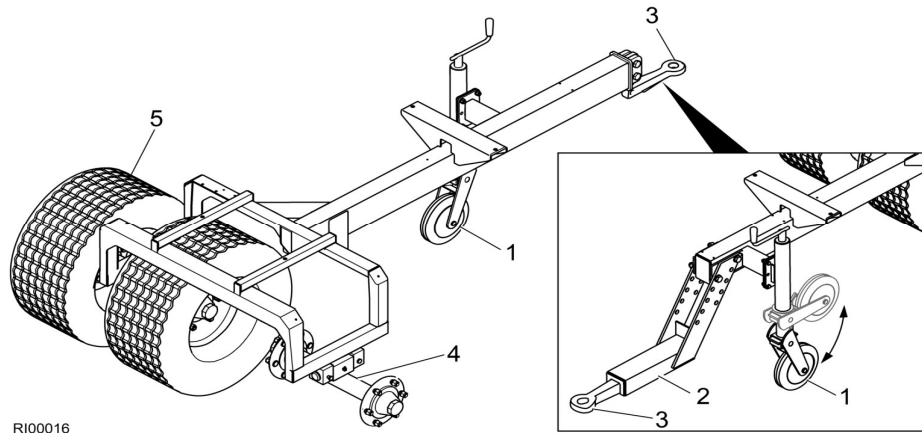

Fig. 8 Chassis, complete DS1600
The chassis consists of a profile steel frame to which two running axles (Fig. 8/4) (each with twin tires (Fig. 8/5)) are attached. The drawbar with angled drawbar eye (Fig. 8/3) is inserted into the profile steel frame. The jockey wheel (Fig. 8/1) with adjustment spindle is bolted to the outside left of the profile steel frame.
- Downward cranked hitch (bottom hitch) (Fig. 8/2)